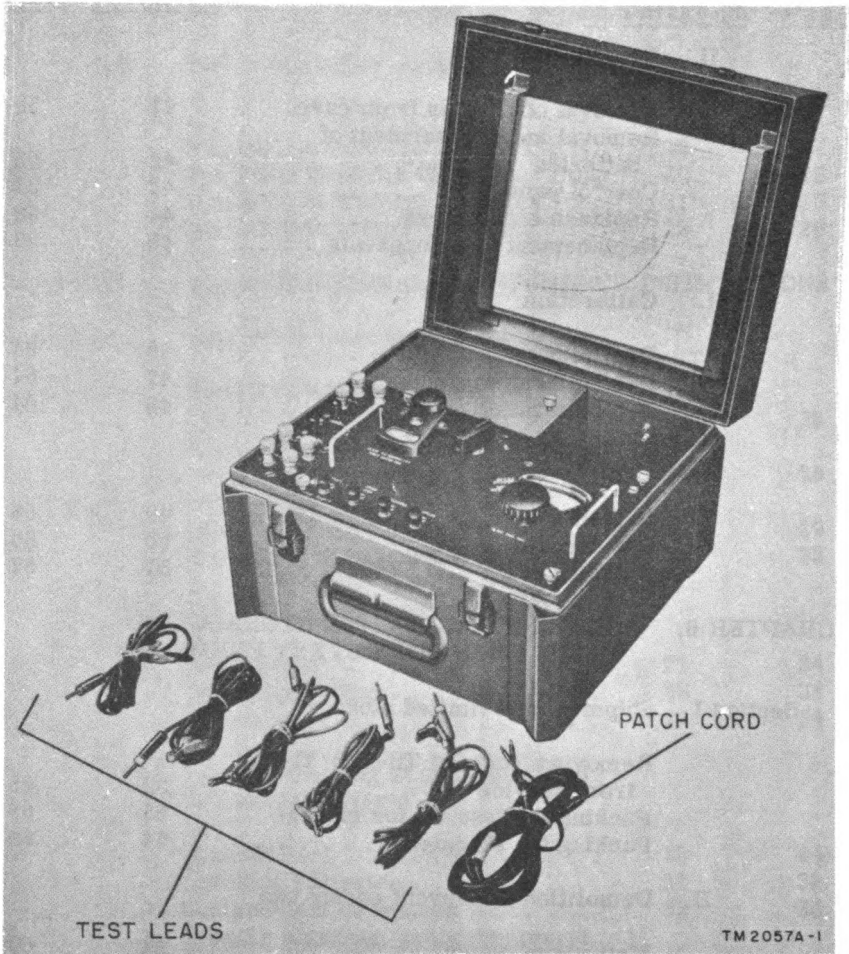

Figure 1. Test Set TS-27B/TSM.
a. Test Set TS-27B/TSM (fig. 1) comprises a single self-contained unit which is supplied complete with five leads for making rapid connections to wire communication lines and a cord for use when it is more convenient to plug into a switchboard than to connect directly to the line being tested. Two spare vacuum tubes also are furnished with the unit.
c. Test Set TS-27B/TSM is a form of Wheatstone bridge powered by dc (direct current) obtained from dry-cell batteries. It is used for measuring conductor and insulation resistance and for locating grounds, crosses, and shorts. When the test set is used for measuring capacitance and to locate opens, 20-cycle ac (alternating current) is supplied by a vacuum-tube oscillator. Two 45 volt Batteries BA-59 or BA-63 in series are used to energize the bridge when making d-c measurements. The vacuum tubes, which are used only for a-c measurements, receive plate power from the same two batteries mentioned above that are used for d-c measurements. Filament power is supplied either by a single 1-1/2-volt Battery BA-15-A or by two 1-1/2-volt flash-light type Batteries BA-30 connected in parallel. Grid bias is supplied by a 4-1/2-volt Battery BA-31. An adapter is provided for Batteries BA-30 so that they can be substituted readily for Battery BA-15-A. Two pairs of binding posts, T and R of PR-1 and T and R of PR-2, provide a means of connecting two pairs of wires to the test set simultaneously. Binding posts TEL are provided for connecting a telephone into the line circuits under test. A ground binding post is provided also. Two cam lever switches permit switching either pair of line test binding posts to the test circuit or to the telephone. These two switches are designated PR-1 TEST--TALK and PR-2 TEST--TALK. Four push switches are used. Three of these switches (OHMS, OHMS X100, and MEGOHMS) are used in connection with d-c measurements. The fourth switch, designated OPENS, is used only for a-c measurements. A view of the test set with the cover raised is shown in figure 1.